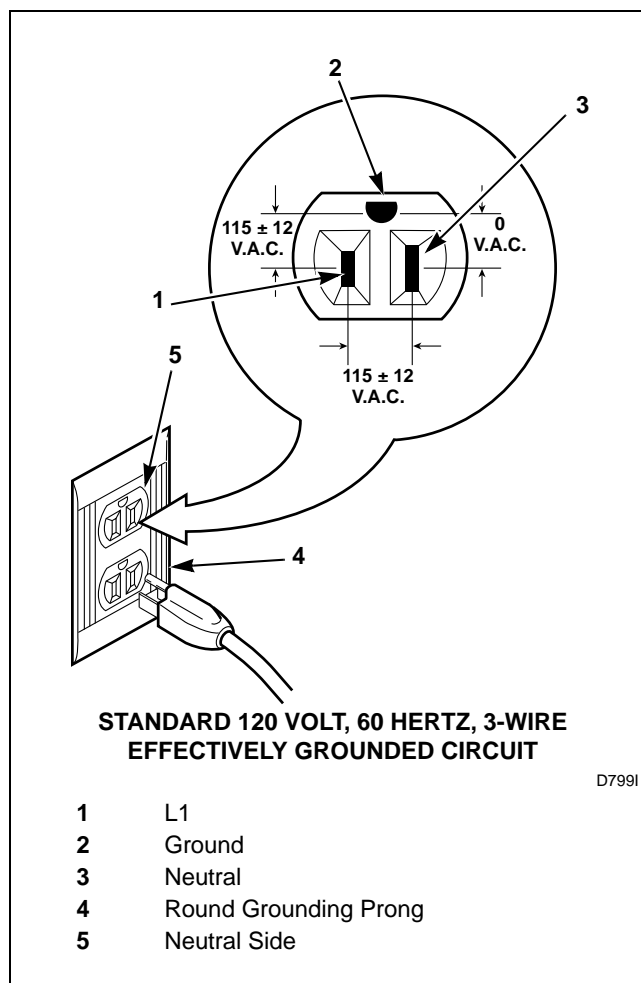

Figure 26
- The three-prong grounding plug on the power cord should be plugged directly into a polarized three-slot effectively grounded receptacle rated 120 Volts AC (alternating current) 15 Amps. Refer to *Figure 26* to determine correct polarity of the wall receptacle.